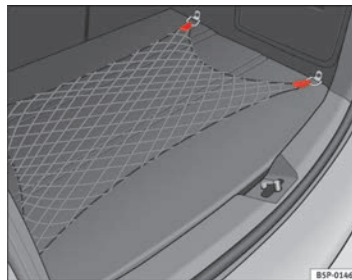

Fig. 108 Retaining net ▶
- Use the fastening rings located on the side of the luggage compartment to attach the retaining net ⇒ page 147, fig. 108.